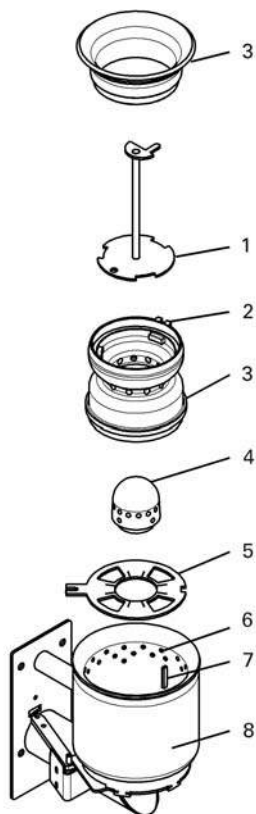

Fig. 120 **BioWIN 100**
- Lift out the cone using the removal tool – Figs. 120, 122, 124.
- Place the cone into the burner pot using the removal tool. The groove in the cone must project into the lock of the burner – Figs. 120, 122, 124.